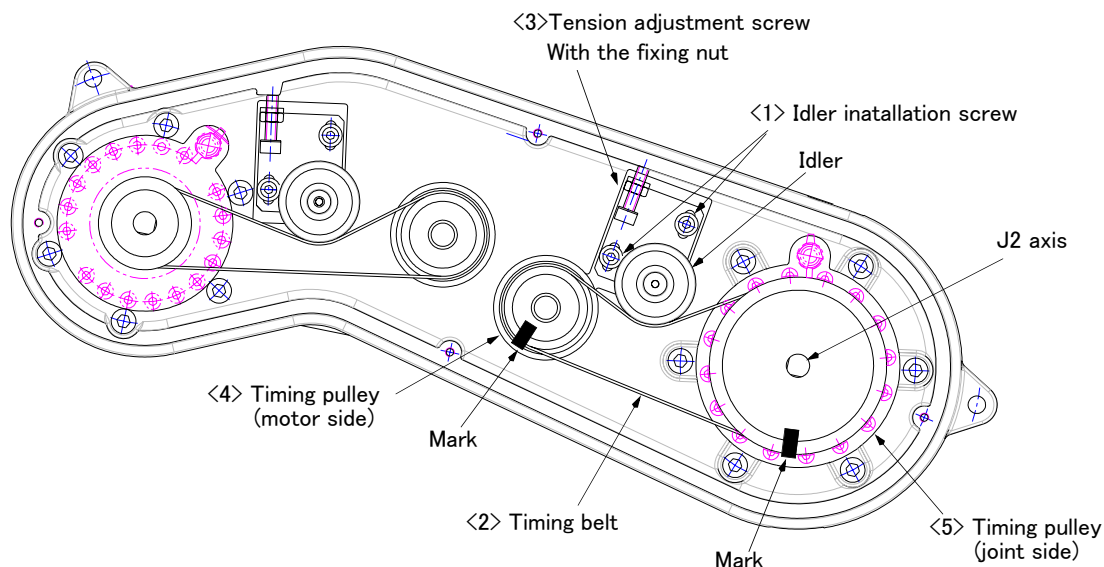

Fig.5-6 : Inspection, maintenance and replacement of J2 axis timing belt
The reference figure at inspection, adjustment, and replacement of the timing belt is shown in Fig. 5-6.
- 3) Make marks on the timing belt <2> and timing pulleys <4> and <5> with a felt-tip pen as shown in Fig. 5-6 so that the engagement of the timing belt <2> and timing pulleys <4> and <5> does not deviate.
- 8) Refer to "■ Inspecting the J3 axis timing belt" and "(8) Timing belt tension" to adjust the tension.